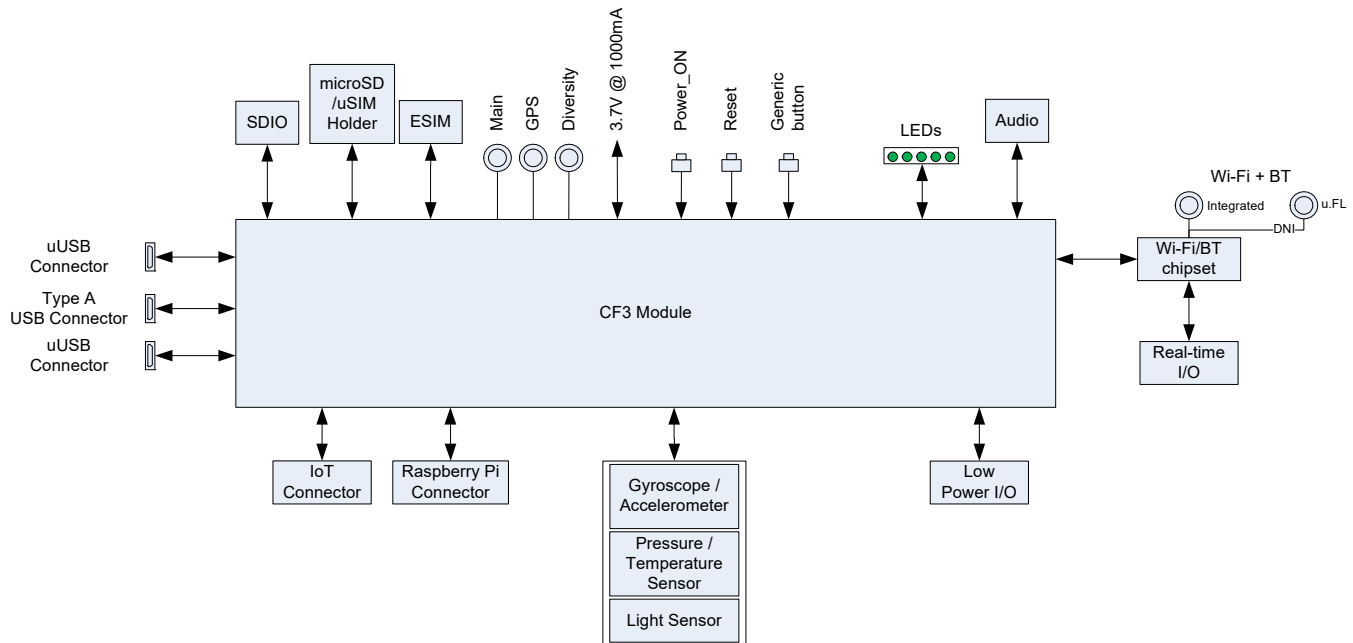
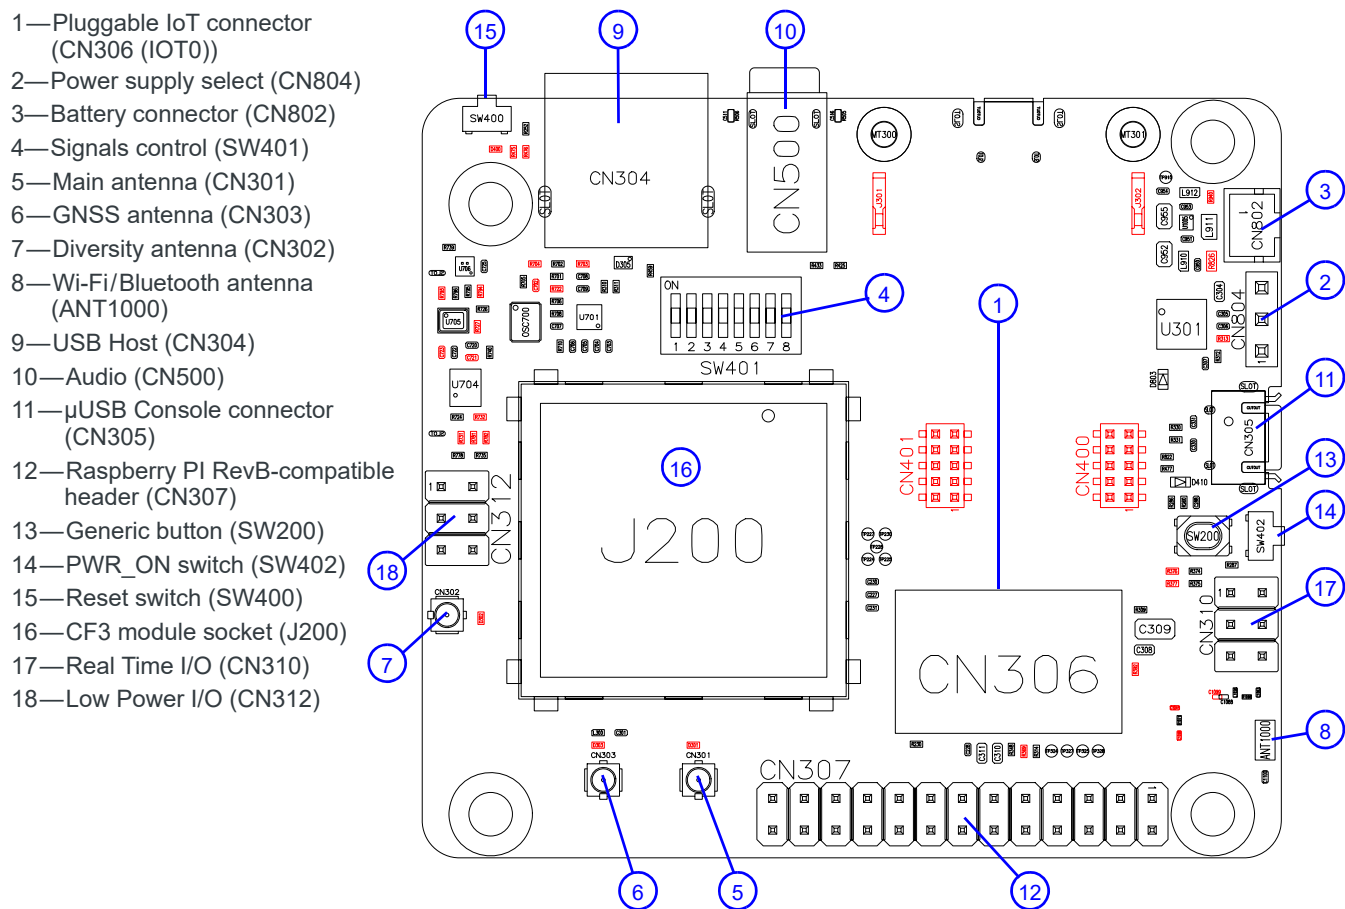
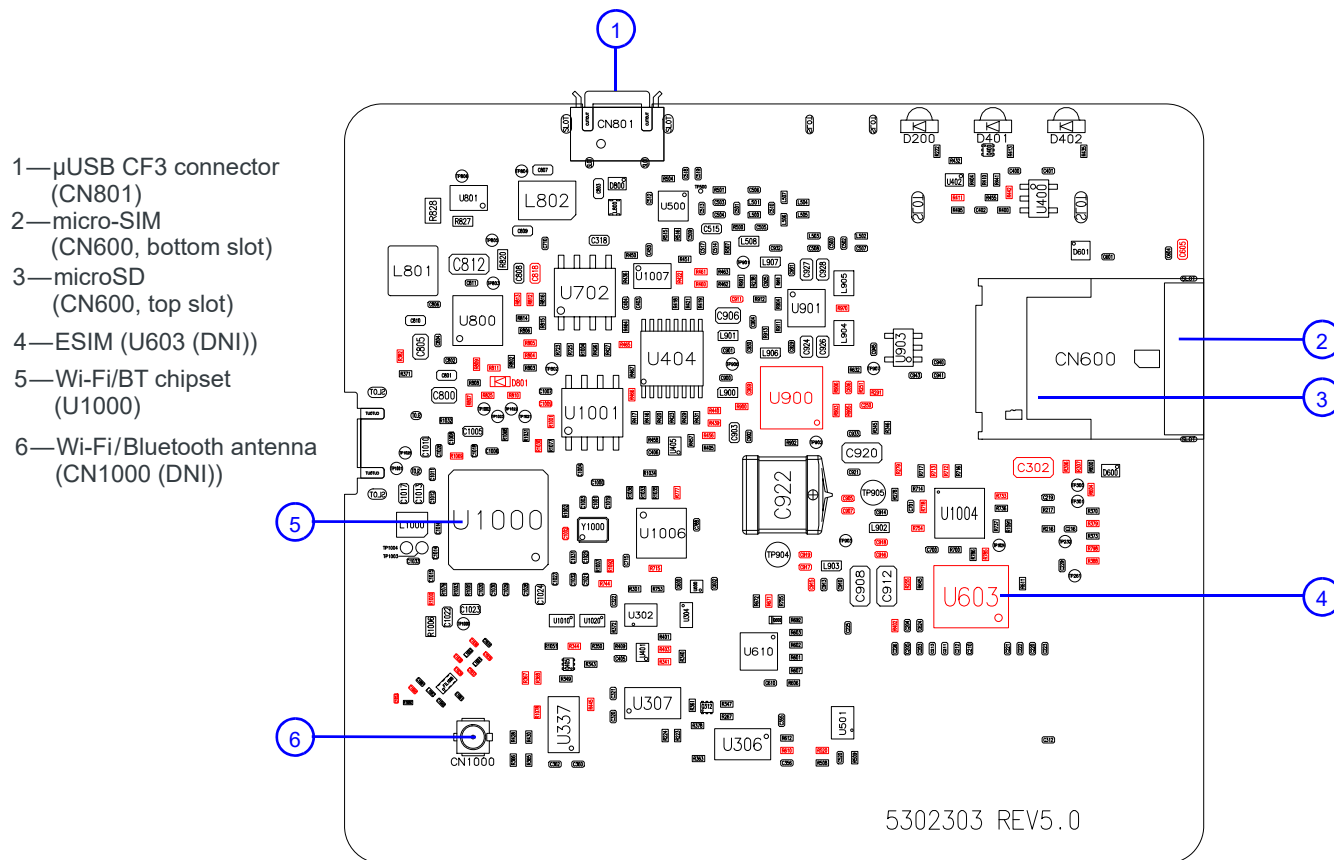

Figure 2-1: mangOH Red Hardware Components Overview
Figure 2-2: mangOH Red—Top Side Switches/Connectors
Figure 2-3: mangOH Red—Bottom Side Switches/Connectors
Figure 2-1 provides an overview of the mangOH Red's hardware components relative to the CF3 module, and Figure 2-2 on page 8 and Figure 2-3 on page 9 show their physical locations.
a. Board designators (e.g. CN311, SW401, etc.) are for reference against the published mangOH Red schematic. For component locations on the board, see Figure 2-2 on page 8 and Figure 2-3 on page 9.